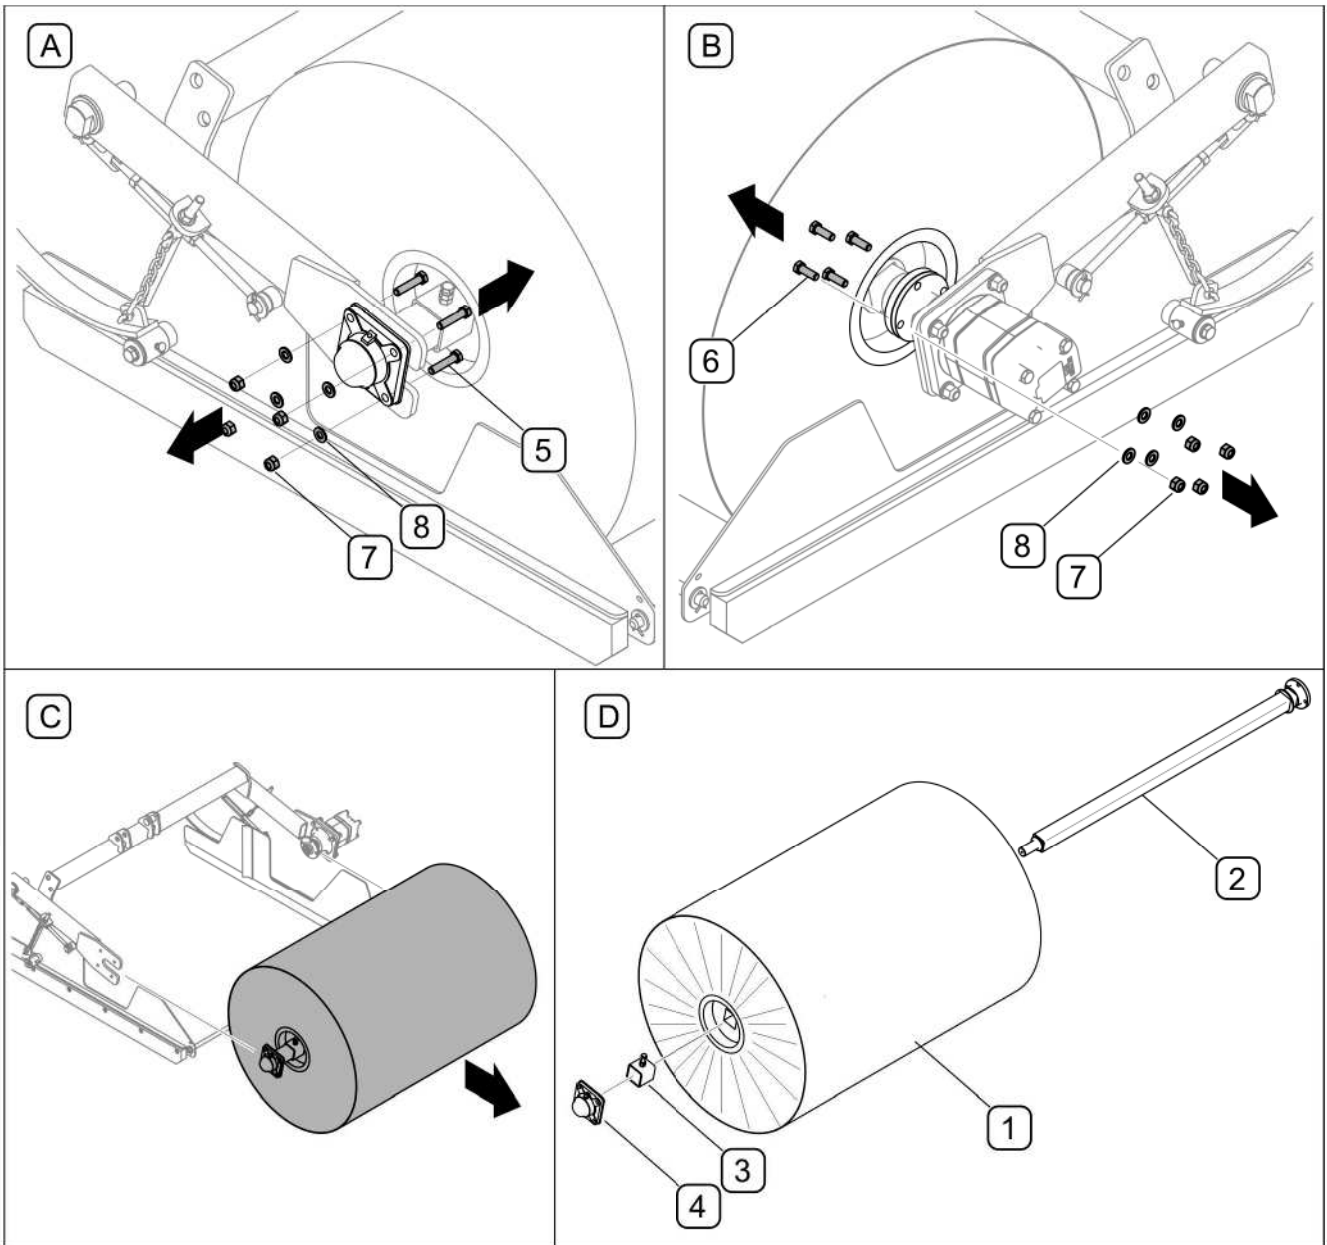

FIG. 5.11 Replacing the roller brush
Technical condition of roller brush (FIG. 5.11) should be checked periodically. Excessively worn brush should be replaced.
- On the left side of the brush, undo and remove bolts (5) that fix the bearing to the brush bracket (A, FIG. 5.11)
- On the right side of the brush, undo and remove bolts (6) that fix the brush axis to the hydraulic motor (B, FIG. 5.11)
- Slide the brush to the rear from the bracket (C, FIG. 5.11)
- Remove mounting with bearing (4), loosen and remove interlock (3) and take out axis (2) from the brush (D, FIG. 5.11). Install a new brush and assemble the complete unit performing the above activities in reverse sequence